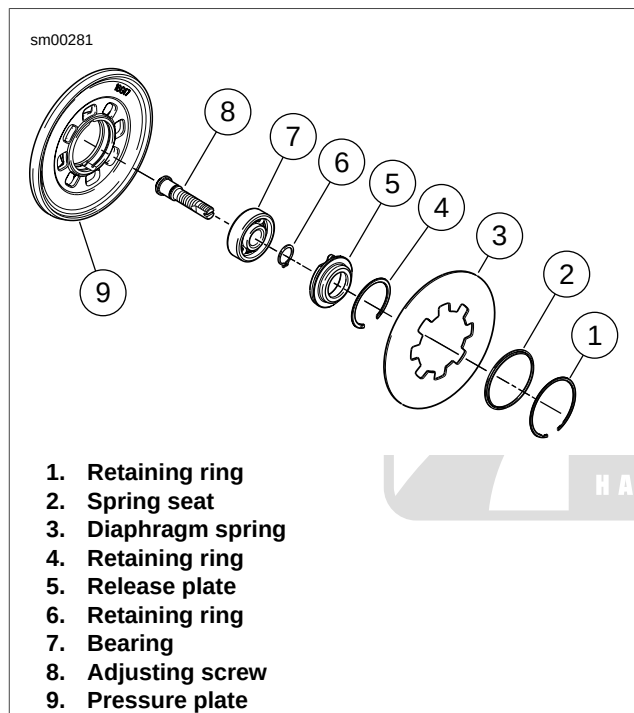

Figure 6-17. Adjusting Screw Assembly
1. See Figure 6-17. Remove adjusting screw assembly.
- a. Remove and discard small retaining ring (6).
- b. Separate the adjusting screw (8) from the bearing (7) and release plate (5).
- c. Remove bearing (7) from release plate (5).